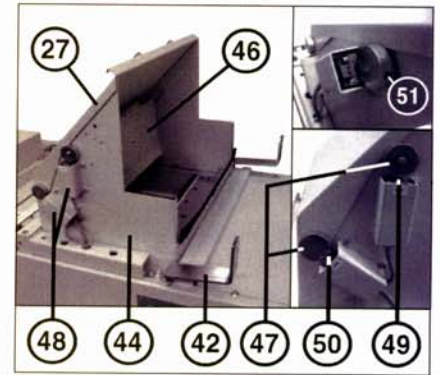

fig. 5
INSTALLATION OF THE HOPPER (44) (fig. 5):
1. Release the transport lock (binder) on the outlet flap (31) and fold the flap down.
2. Take the hopper (44) out of the press compartment, as shown, place over the filler opening and fix to the press from inside with the aid of the 7 hexagon socket screws M6x12.
3. Remove both switch covers (48). Fix the limit switch S8 (49) with 2 screws M4x40 and nuts M4 below the switch cam of the switch flap (47). Undo the threaded pin (51) (Allen key 2.5 mm), turn the cam into position and tighten the threaded pin again.
- 44 = hopper (fig. 5)
- 46 = switch flap (fig. 5)
- 47 = switch cam (fig. 5)
- 48 = switch cover (fig. 5)
- 49 = limit switch S8 (fig. 5)
- 50 = limit switch S9 (fig. 5)
- 51 = threaded pin (fig. 5)